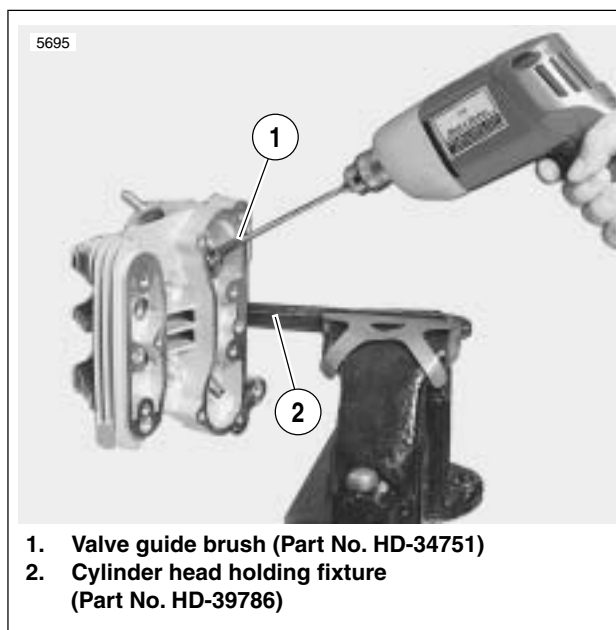

Figure 3-75. Cleaning Valve Guides
7. See Figure 3-75. Thoroughly clean valve guide bores using VALVE GUIDE BRUSH (Part No. HD-34751) and hot soapy water.